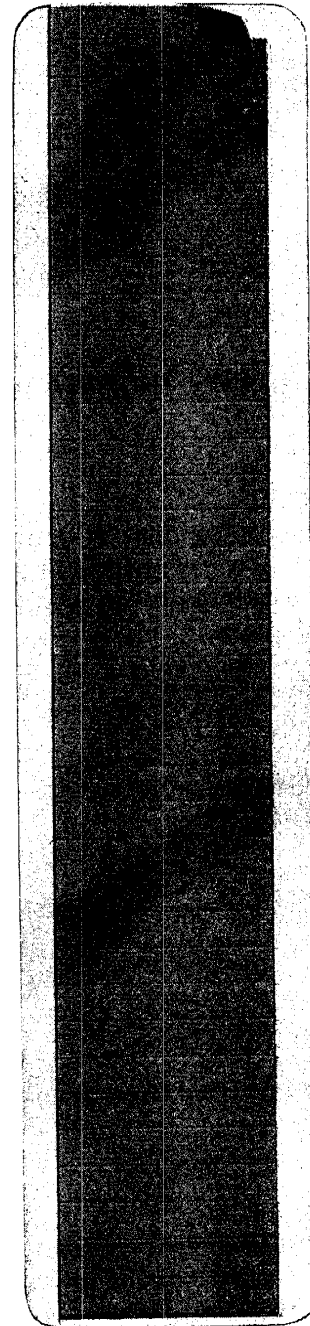

Fig. 21 — Warning Marker Form E-5190
6.14 The Warning Marker Form E-5190 is red waterproof plastic cloth, Fig. 21, with a pressure sensitive backing. The tapes are 1/4 inch wide by 1-1/2 inches long and are supplied on a dispenser card with 36 tapes to a card. This wiring marker is designed for identification of special service lines joined by B wire connectors.